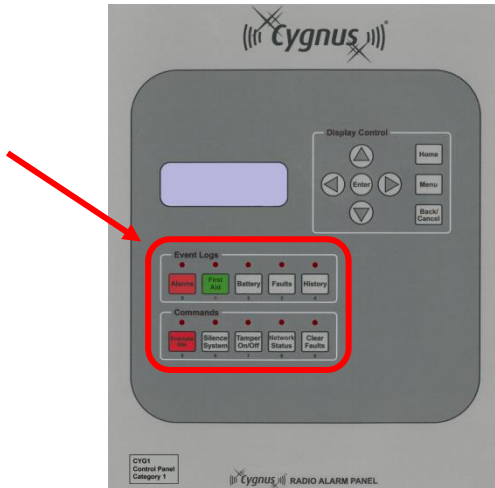

Figure 7-30: Control Panel showing the numbered buttons
- Use the numbered buttons (shown in Figure 7-30) to enter the password (default 1234), then press **Enter**.